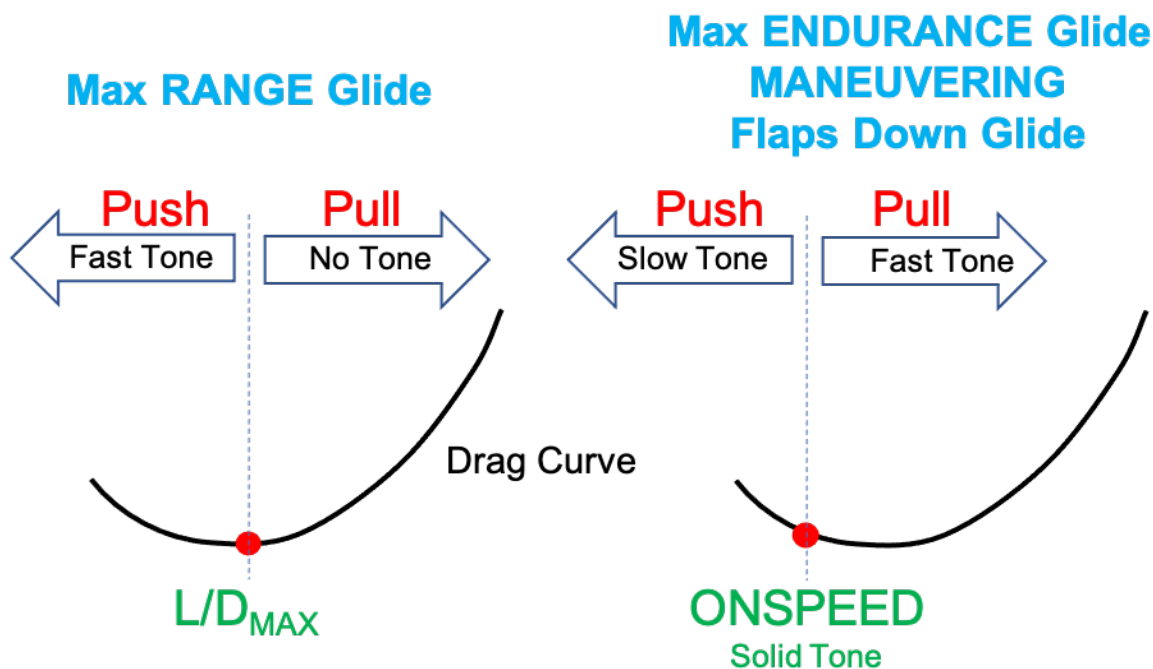

Figure 1. Performance AOA Cues for Gliding Flight
If the engine fails, energy management (EM) is all about trading altitude and airspeed, maintaining aircraft control and arriving over the touchdown point ONSPEED. Pitch is the primary control we use to accomplish this, and using AOA allows us to do this as efficiently as possible. The two key AOAs for EM when engine-out are L/D_{MAX} AOA for maximum range glide and ONSPEED for maximum endurance glide, maneuvering, approach and landing. Figure 1 depicts the “push/pull” matrix applied to gliding flight. The Goldilocks (just right) zone for gliding flight is between ONSPEED and L/D_{MAX} flaps up and ONSPEED, flaps down. Optimum turn performance occurs ONSPEED regardless of flap position. If gliding flaps up and no wind maximum range is desired, fly L/D_{MAX} AOA unless maneuvering, then fly ONSPEED. If maximum endurance glide is desired, fly ONSPEED AOA. If gliding flaps down, fly ONSPEED AOA.